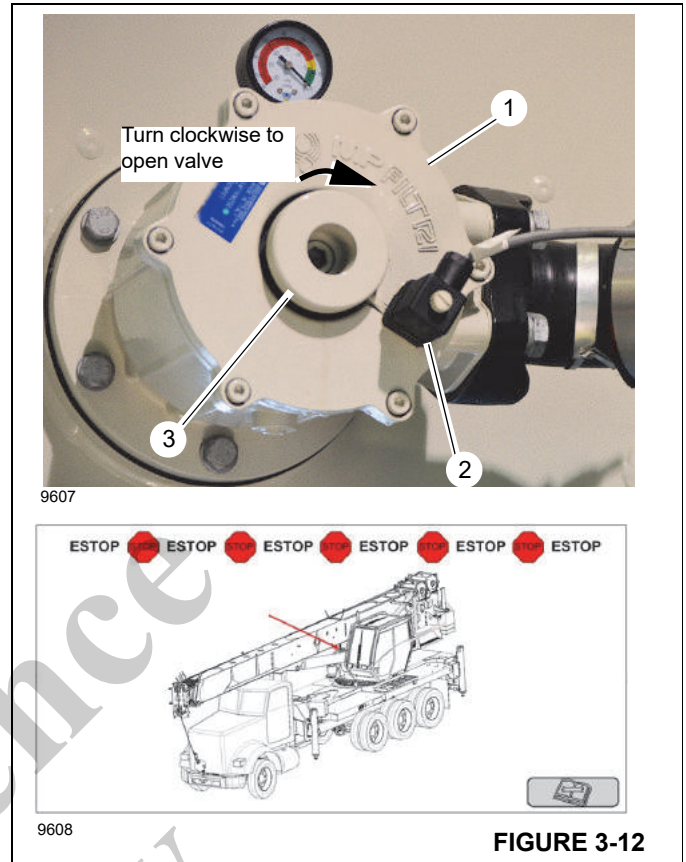

FIGURE 3-12
The hydraulic suction pump (1, Figure 3-12) is located on the front of the hydraulic tank. The pump features a safety switch (2) that determines if the shut-off valve is open or shut. The valve must be fully open to start and operate the crane. When the valve is closed, the crane will not start. This safety switch ensures that there is hydraulic fluid available when running the crane. For more information about the control states, see “Crane Ignition and Control States” on page 3-3.
When the suction valve is closed, the ESTOP warning screen appears in the RCL (Figure 3-12). The ESTOP screen persists until the suction valve is fully open.